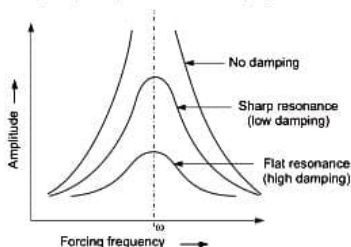

Fig. 1.3 : Resonance
- Fig. 1.3 shows the variation of amplitude with the forcing frequency at different damping values.